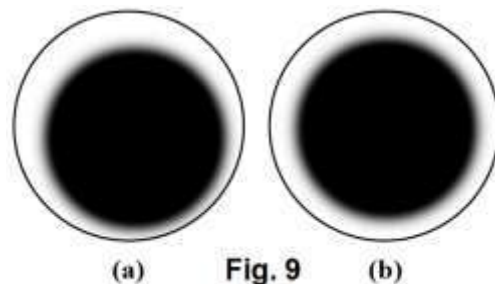

Fig. 9
- Turn the condenser focus knob to lower the condenser till a dark spot showed in the viewing field as shown in Fig. 9 (a).
- Turn the condenser translational centering screws to move the dark spot to the center as shown in Fig. 9 (b).